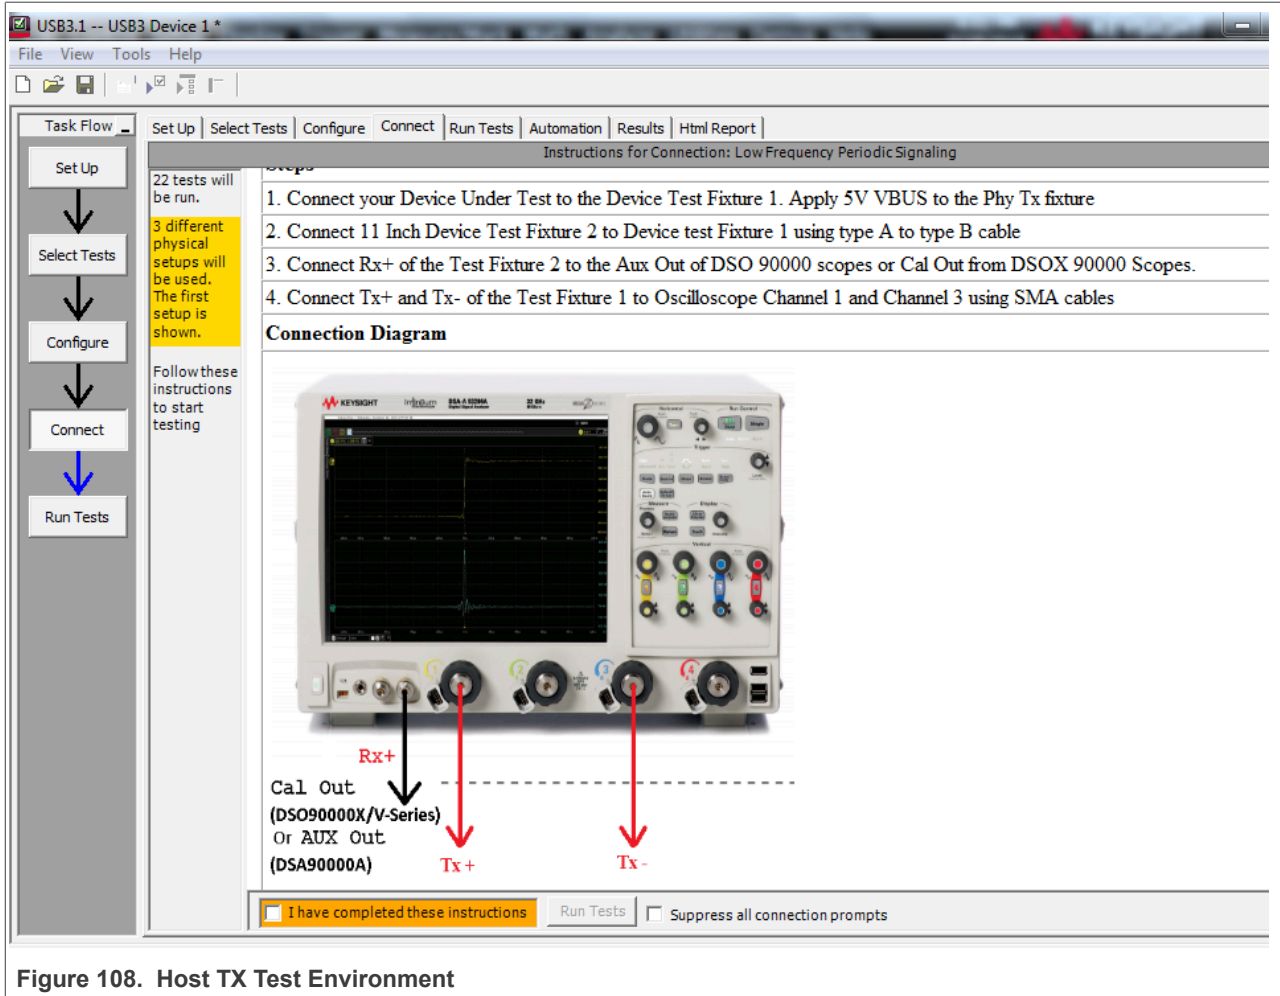

Figure 108. Host TX Test Environment
6. Connect **RX+** of the Test Fixture 2 to the Aux Out of DSO 90000 scopes or Cal Out from DSOX 90000 Scopes in Figure 108.